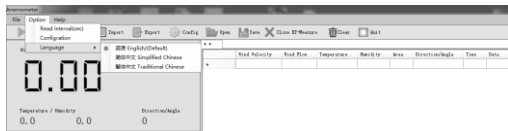
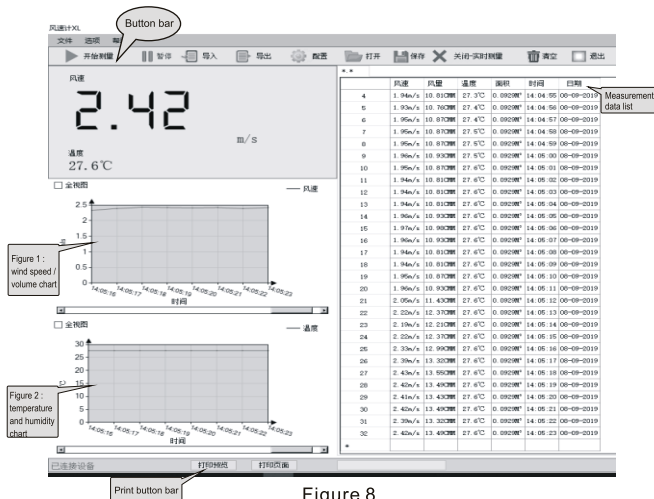

Figure 6
Figure 8
- Language switch step: Click real-time measurement icon "Real Time Measure" to enter into measurement interface, select "Option" in menu bar, click the right triangle in "Language" to select language. As shown in Figure 6 below
- Toolbar: as shown in Figure 6 below (1) File, (2) Option, (3) Help.
- Button bar: as shown in Figure 6 below
- (1) Start measurement
- (2) Pause
- (3) Import
- (4) Export
- (5) Configuration
- (6) Open
- (7) Save
- (8) Off - Real-time measurement
- (9) Empty
- (10) Exit
- Display area: switch wind speed and volume according to the instrument, the corresponding curve will be displayed in display area (line chart); as shown in Figure 8 below.